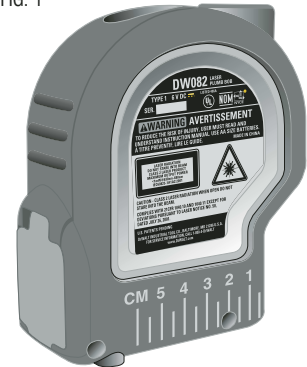

FIG. 2
1. Lift up on the battery compartment cover (A) as shown in Figure 2.